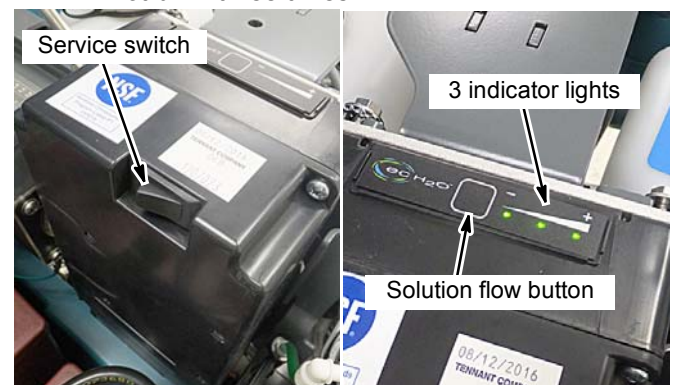

FIG. 153
- b. Press and hold the service switch, located on the ec-H2O module, for 10 seconds. After releasing service switch, the three solution flow indicator lights will begin to (ripple) move back and forth (Figure 153).
- c. Within 5 seconds after releasing the service switch, while the three indicator lights are moving back and forth, quickly press and release the solution flow button located on ec-H2O module (Figure 153). The three indicator lights will then blink three times to indicate timer has been reset. Repeat process if the three indicator lights do not blink three times.